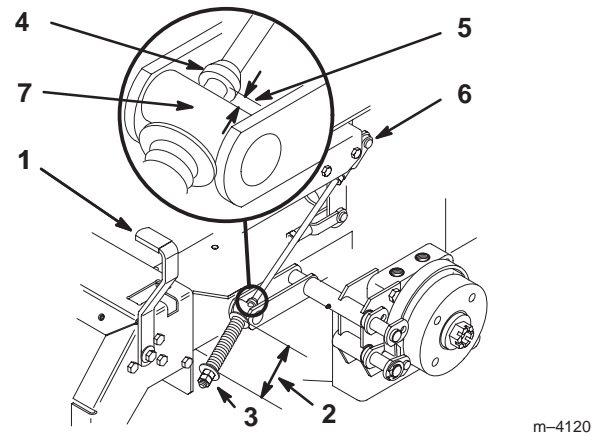

Figure 55
2. Measure the length of the spring. The measurement should be 2-3/4 in. (70 mm) between the washers (Fig. 55).
3. If an adjustment is necessary, loosen the jam nut below the spring and tighten the nut directly below the yoke (Fig. 55). Turn the nut until the correct measurement is obtained. Tighten the two nuts together and repeat on the opposite side of the unit.
6. Measure the distance between the trunnion roller and the collar on brake rod. The measurement should be 3/16–1/4 in. (5–7 mm) (Fig. 55).
7. If an adjustment is necessary, loosen the jam nut directly below the yoke. Turn the bottom adjusting nuts until the correct measurement is obtained (Fig. 55). Tighten the jam nut at the yoke.